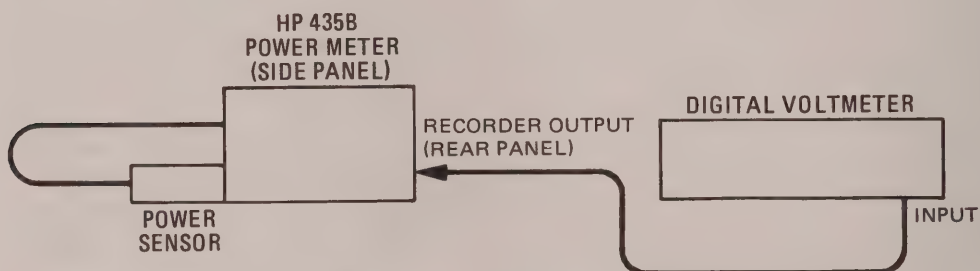

Figure 5-4. Power Meter Adjustment Setup with 50Ω Power Sensor
4. Remove the right side cover of the Power Meter and connect the equipment as shown in Figure 5-4.